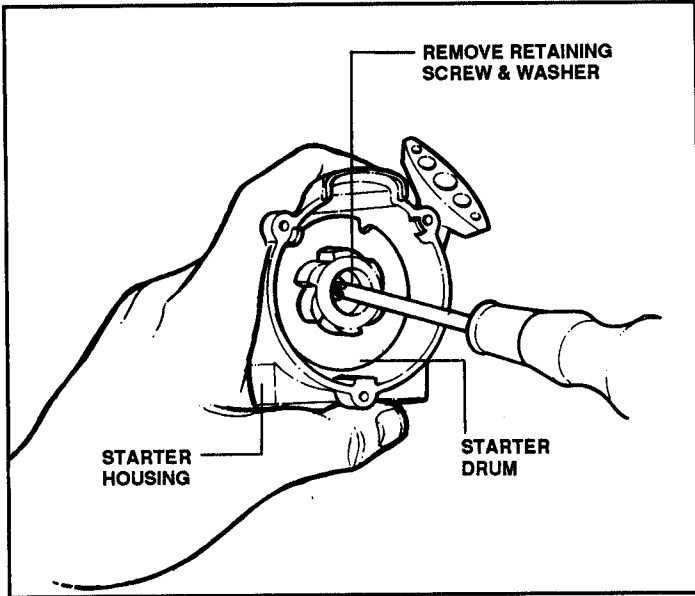

FIGURE 12
- To remove starter drum, remove the single retaining screw and washer. The spring beneath the starter drum is still under tension. Gently remove the starter drum with a slight twisting motion. See Figure 12.